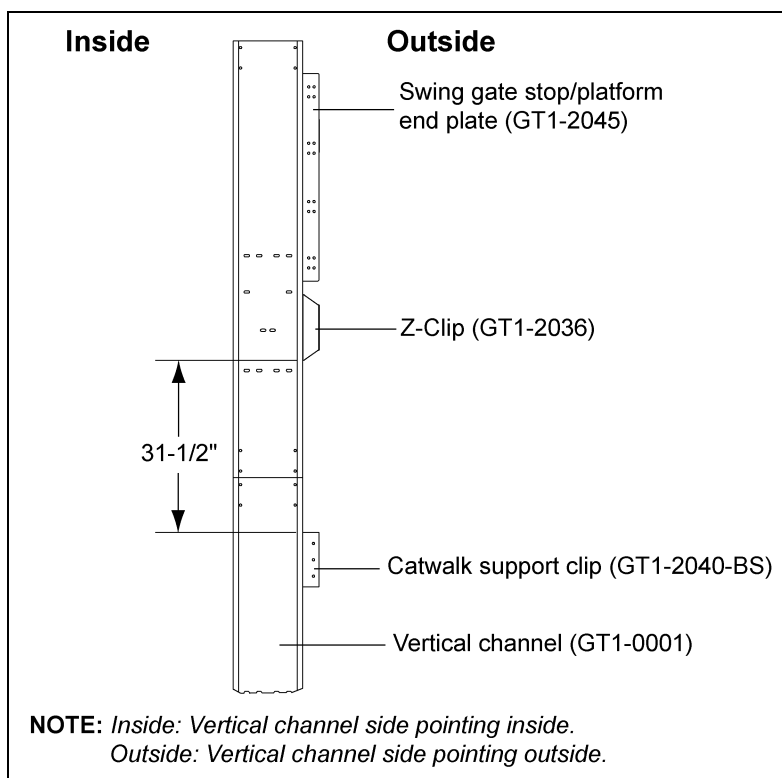

Figure 4F
2. The distance between the Z-clip and support clip for 18' outside catwalk is 31-1/2". (See Figure 4F.)